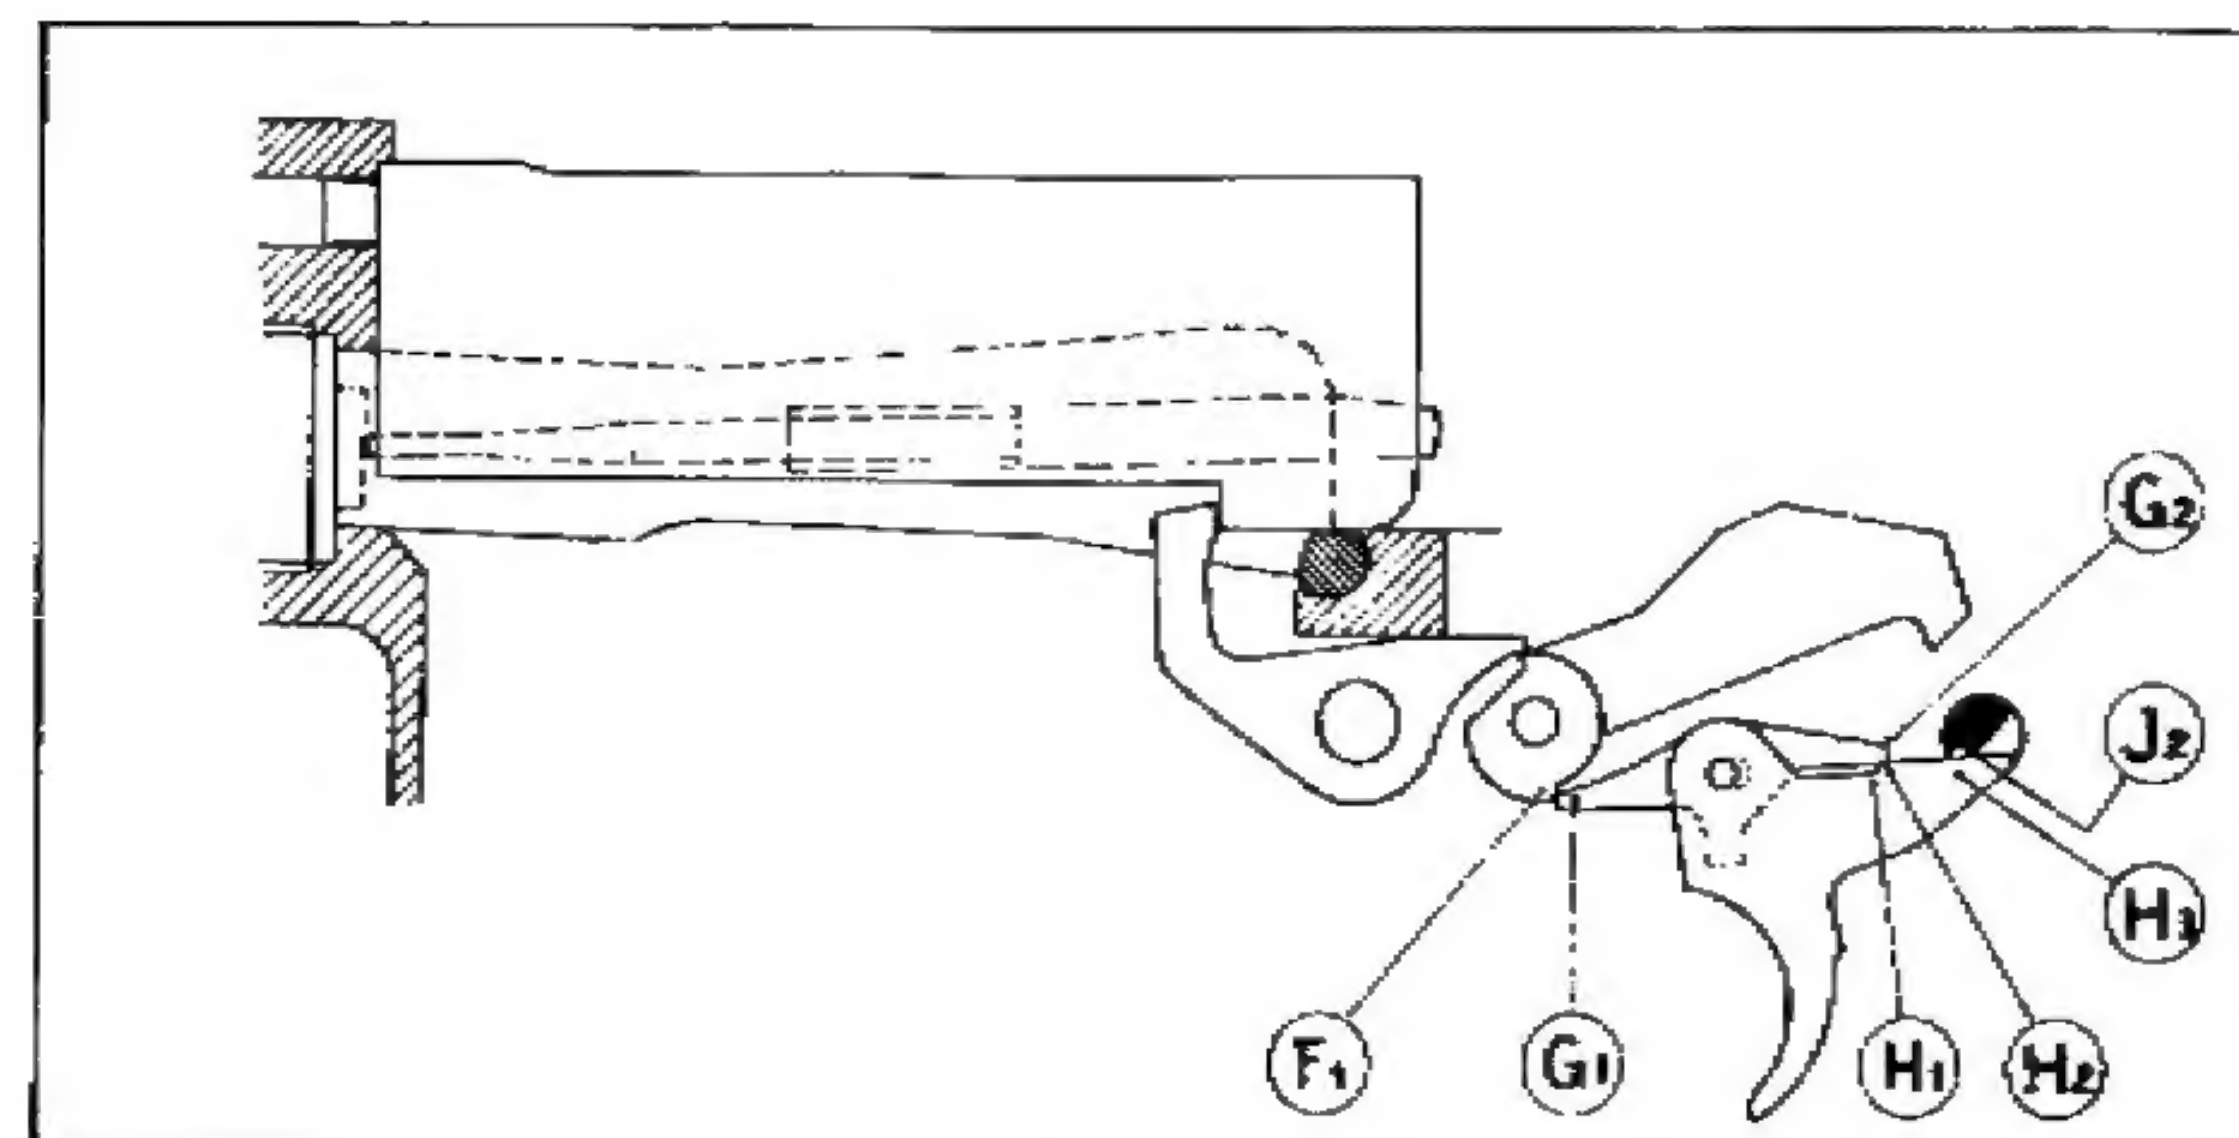

Fig. 15
- The safety sear, tripped by the slide, is released from the upper bent of the hammer (fig. 15); the hammer rotates forward until the lower bent (F1) is engaged by the nose of the trigger sear (G1).
- The change lever axis is now positioned with its shallowest notch (J2) in contact with the rear part (H3) of the trigger (fig. 15).
- When the trigger is pressed, the rear shoulder (H2) of the trigger contacts the rear arm (G2) of the sear (fig. 15). (This gives the feeling of initial pressure.)
- The hammer pivots slightly around its pin and again moves forward to be caught by the nose (G1) of the sear in the lower hammer bent (F1), causing the sear to withdraw against the vertical part of the rear shoulder of the trigger (H2) (fig. 15).
the trigger forward, thus lowering the rear shoulder (H2). The sear is now freed and the hammer forces it slightly back to its original position (fig. 15).